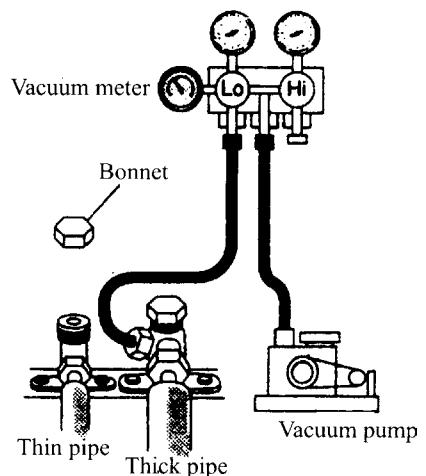

Fig 105
- (9) If possible, exhaust air in the unit from the check valve with a vacuum pump(see Fig. 105).